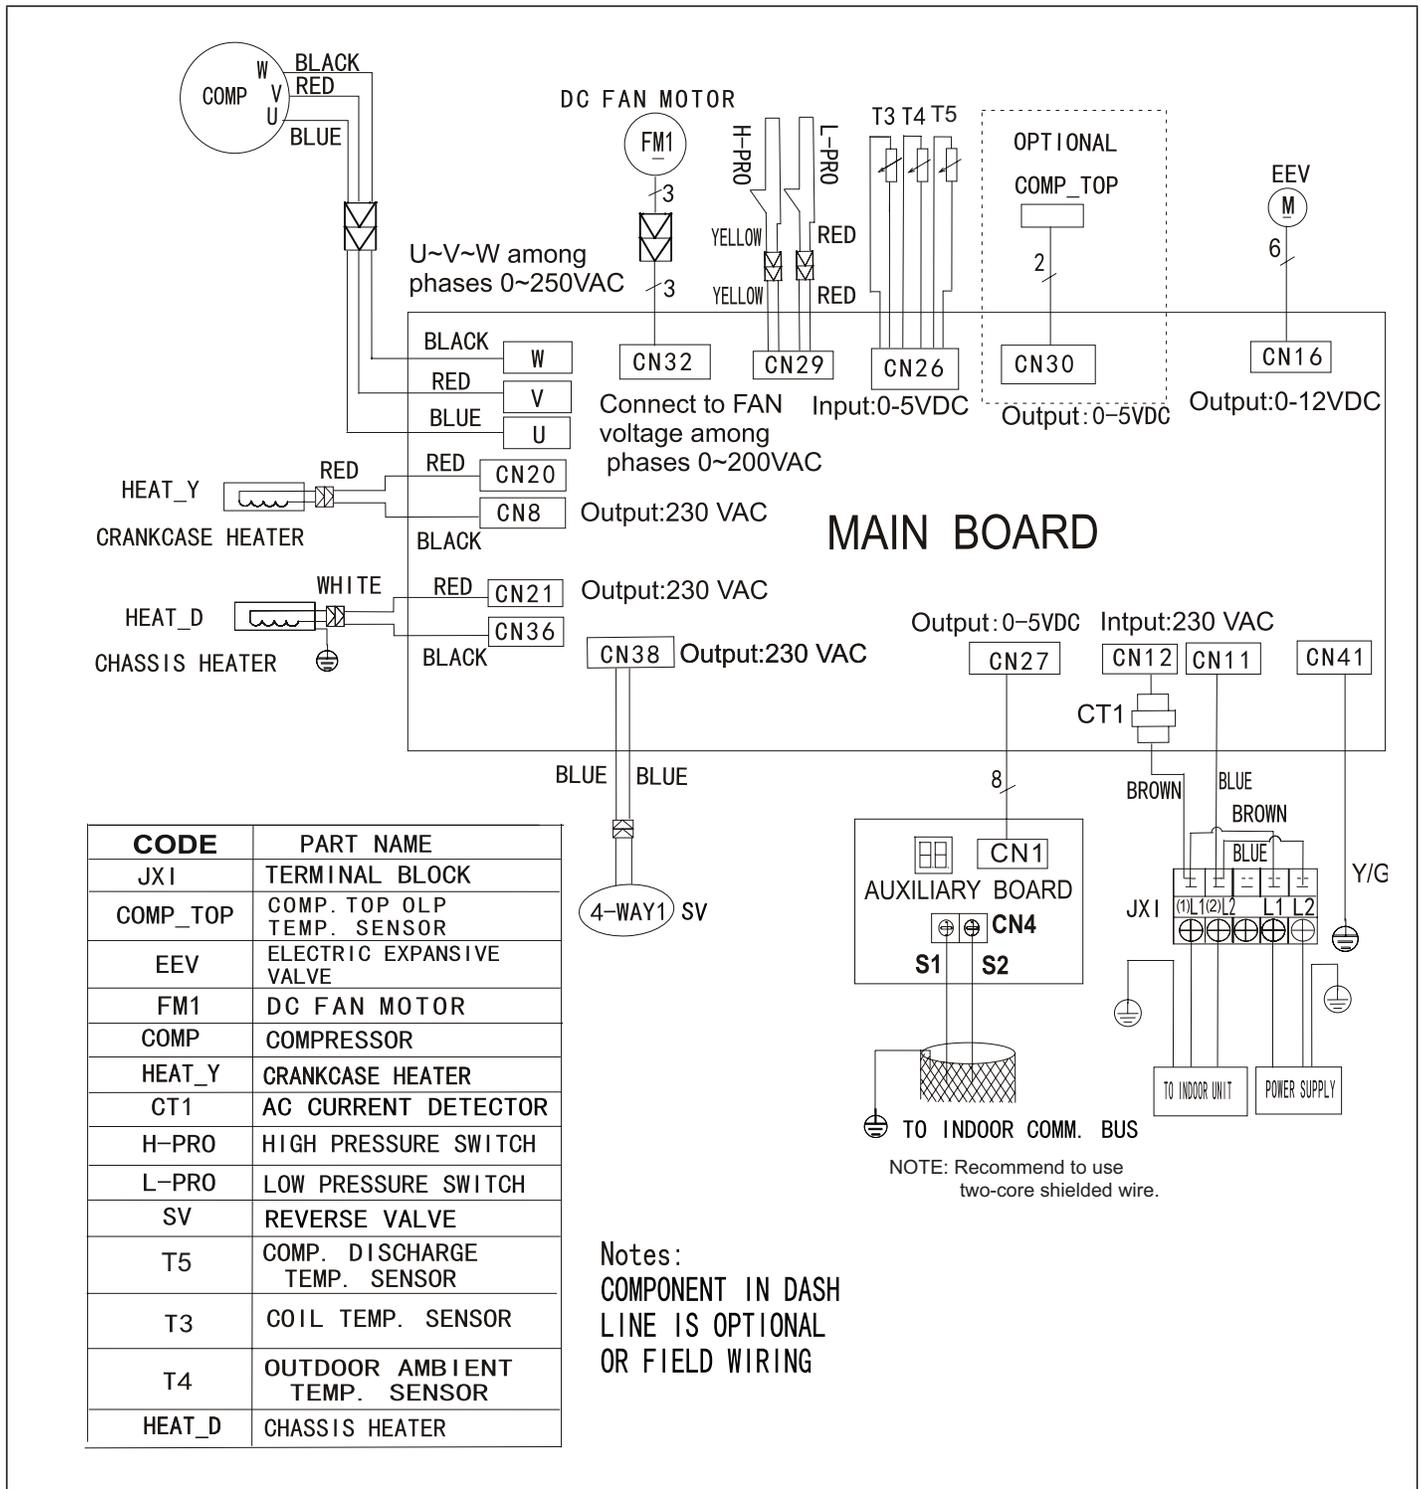

Figure 28. 3PC036 Outdoor Unit Wiring Diagram
- See "Figure 28. 3PC036 Outdoor Unit Wiring Diagram" on page 17 for communication bus connections between indoor and outdoor units.